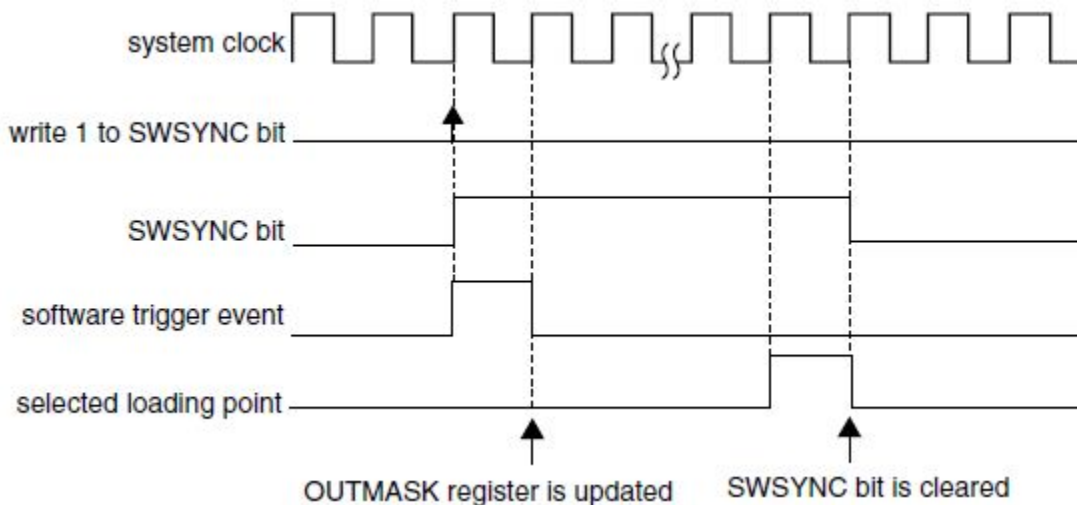

Figure 4. OUTMASK Synchronization with SYNCONF[SYNCMODE] = 0, SYNC[SYNCHOM] = 1, MODE[PWMSYNC] = 0 and software trigger was used
- If the trigger event was a software trigger, then SYNC[SWSYNC] is cleared on the next selected loading point. See Figure 4.